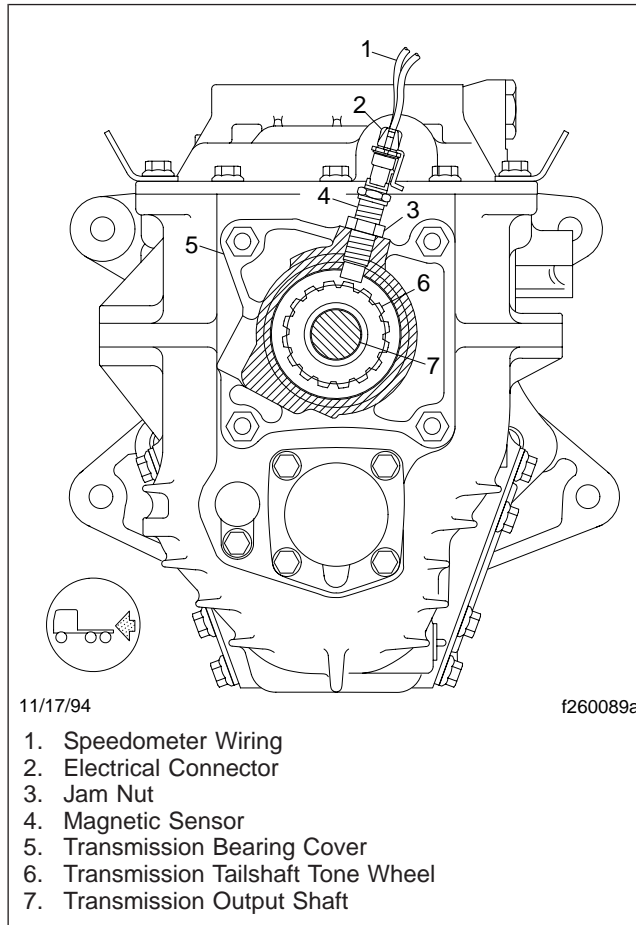

Fig. 1, Magnetic Sensor Installation (cutaway view)
5. Screw the new sensor (p/n 681 542 13 17) into the transmission cover until it bottoms out in the transmission. If no plastic shim is installed on the sensor, back the sensor out one-half turn. See Fig. 1.